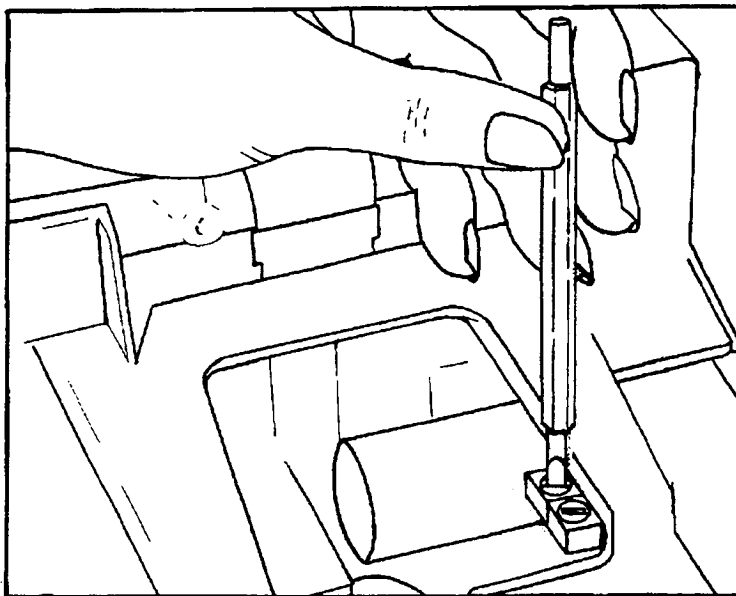

Figure 3-9 Battery Charger Float Voltage Adjustment
- Adjust R12 on the power supply PWA as shown in Figure 3-9 for  $+13.75 \pm 0.05$  Vdc.
\* Adjust R12 as shown in Figure 3-9.